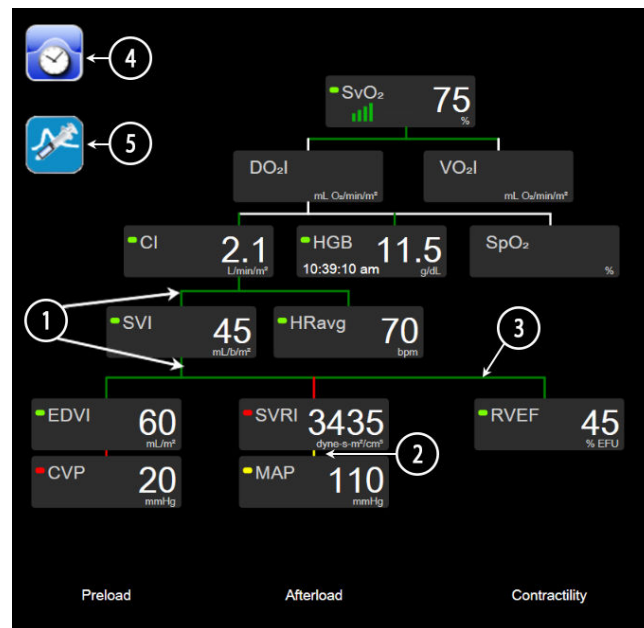

Figure 5-14: Physio relationship screen while monitoring with HemoSphere Swan-Ganz module
2. Vertical lines that directly connect two parameters will appear in the same color as the parameter lantern below (for example, between SVRI and MAP in Figure 5-14 on page 104).
4. The left bar appears after a bolus set is performed. Touch the clock/waveform icon to display historical data when available (see Figure 5-14 on page 104).
The example shown in Figure 5-14 on page 104 is while monitoring with a HemoSphere Swan-Ganz module. Differences in appearance and parameters will occur with other monitoring modes. For example, while monitoring within minimally-invasive monitoring mode, HRavg is replaced by PR, PPV and SVV appear (if configured), and EDV and RVEF are not shown.